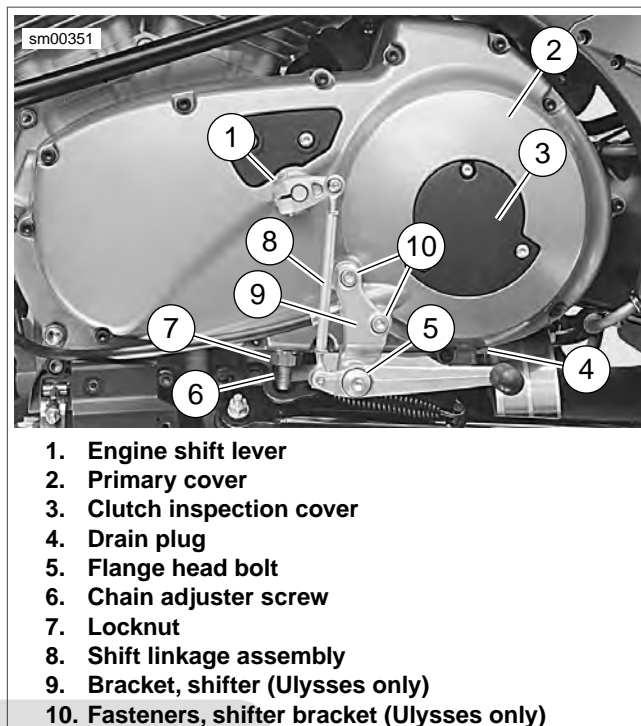

Figure 5-1. Removing Primary Cover (Ulysses Shown)
4. See Figure 5-1. Place a drain pan under the engine/primary area. Remove drain plug (4) and drain lubricant from primary drive.
5. Remove engine shift lever assembly (1) and rubber washer. Use care not to scratch primary cover.
6. Remove flange head bolt (5).
7. For Ulysses only, remove shifter bracket fasteners (10) and shifter bracket (9) from primary cover.
9. See Figure 5-1. Loosen locknut (7). Turn chain adjuster screw (6) counterclockwise to remove tension on primary chain.
10. See Figure 5-1. Remove clutch inspection cover (3).
12. See Figure 5-1. Remove screws which secure primary cover (2). Remove cover and gasket.